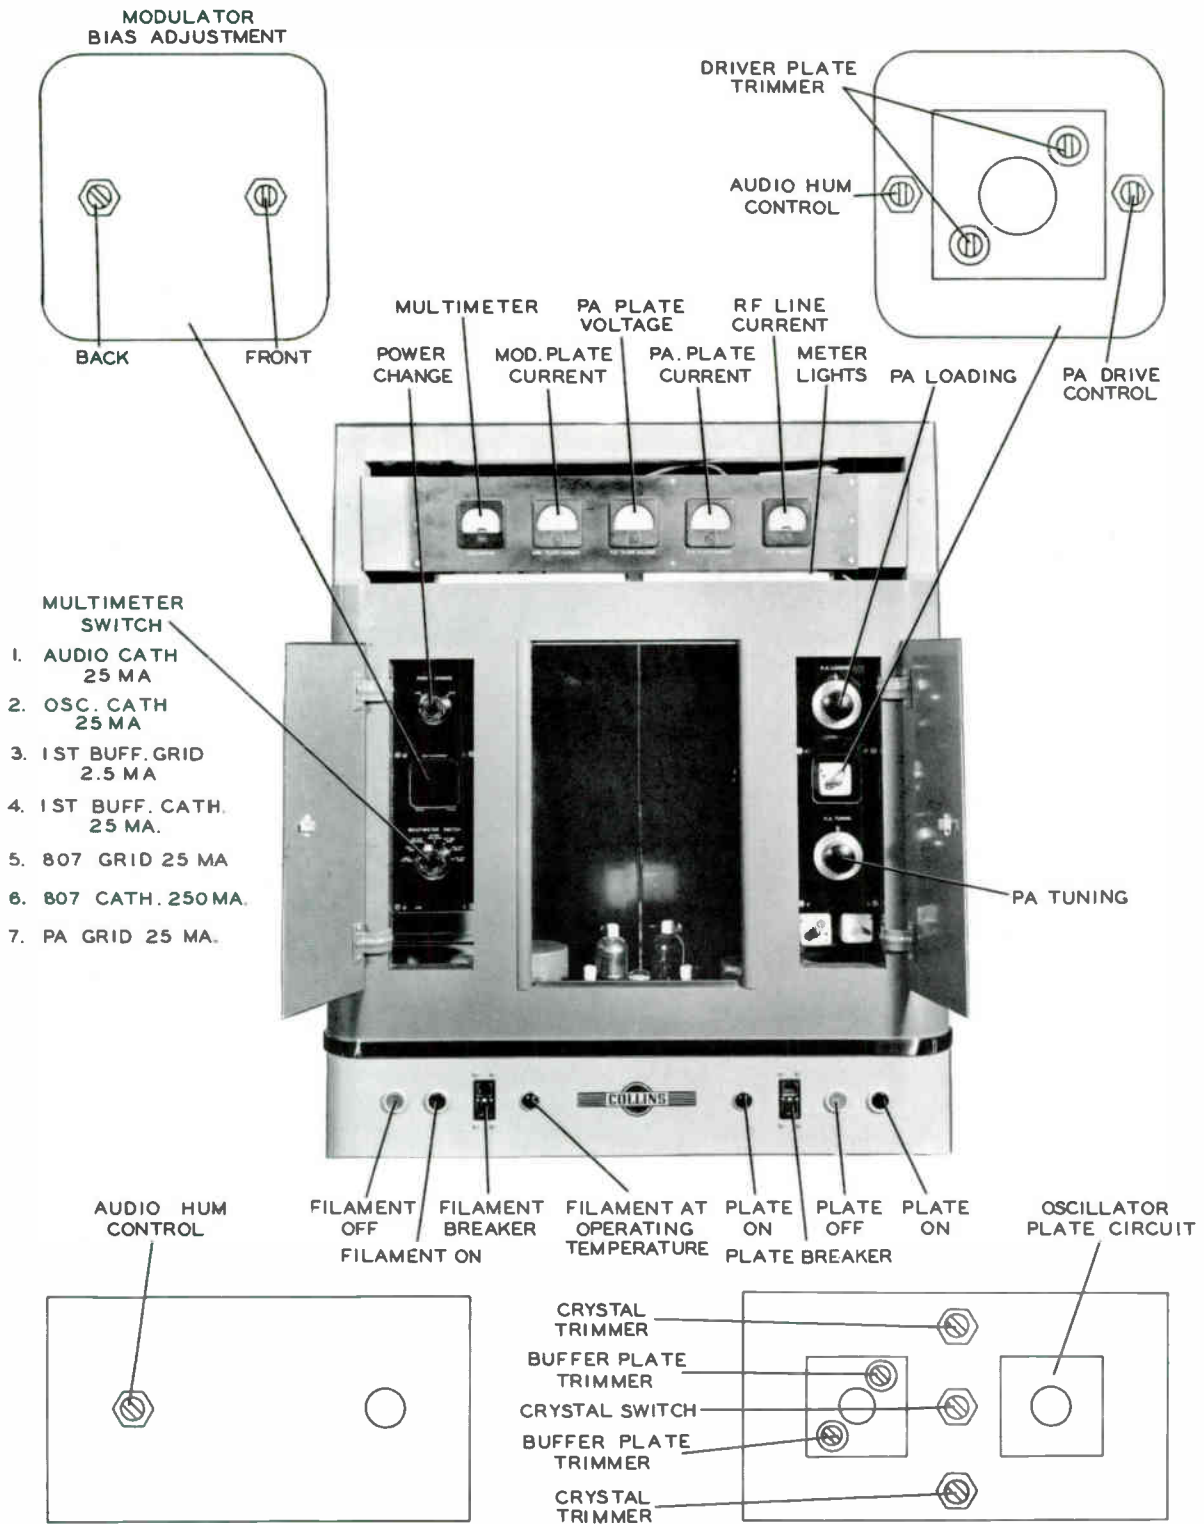

Figure 3-1. Location of Controls and Instruments
3.1. FILAMENT CONTROL (See figure 3-1.)
Crystal selector switch S-101 is located in the center of the area behind the lower right inspection plate as indicated in figure 3-1. The switch shaft is slotted for screwdriver operation. When the switch is turned to the right, the crystal toward the right side of the chassis (as viewed from the front of the transmitter) is selected.
Crystal frequency trimmer controls C-101 and C-102 are located behind the lower right inspection plate as indicated in figure 3-1. These two controls provide for small adjustments in the crystal frequency. C-101, the upper control, adjusts the frequency of Y-101, the left-hand crystal as seen from the front of the transmitter.
Multimeter switch S-102 is a two-pole, seven-position switch located behind the left door on the front of the transmitter cabinet as shown in figure 3-1. This switch inserts multimeter M-104 into any one of seven transmitter circuits. Table 4-1 lists the multimeter switch positions and typical readings for these circuits. The full scale reading of the multimeter is indicated for each switch position.
The first buffer tank circuit trimmers, C-114 and C-115, are screwdriver adjustments located behind the lower right inspection plate. The location of these two trimmers is shown in figure 3-1. They should be adjusted for maximum grid drive to the 807 rf driver stage. The trimmers are connected in parallel as shown in figure 7-4. One of the trimmers should be adjusted to give a good tuning range with the second trimmer, and all adjustments made with the second trimmer.
C-125 and C-126, the rf driver tank circuit trimmers, are screwdriver adjustments located behind the upper right inspection plate. The location of these two trimmers is shown in figure 3-1. They should be adjusted for maximum grid drive to the power amplifier. The trimmers are connected in parallel as shown in figure 7-4. One of the trimmers should be adjusted to give a good tuning range with the second trimmer and all adjustments made with the second trimmer.
The power amplifier plate circuit tuning and loading controls, C-146 and C-147, are located behind the right-hand door on the front of the transmitter cabinet as shown in figure 3-1. The PA tuning control is used to resonate the power amplifier plate circuit. An increase in loading is obtained by reducing the capacity of the power amplifier loading capacitor, C-147, while simultaneously retuning the power amplifier plate circuit to resonance by means of the PA tuning control. With a pi-L output network of the type used in the 550A-1 transmitter, any adjustment of the PA loading control will detune the output network and cause the plate current to soar. Care must be exercised to keep the PA tuning at resonance whenever the PA loading control is adjusted. The loading should be increased until the rf line current is slightly less than the desired value. The PA tuning control should then be adjusted slightly to the side of resonance that gives an increase in rf line current. The power amplifier plate current will also increase; however, the increase in power to the rf line constitutes a large proportion of the increase in power to the power amplifier circuit, thus yielding a higher plate efficiency. Adjust the PA tuning and PA loading controls to the point where the desired amount of rf line current is obtained with the highest operating efficiency. The highest efficiency will always be obtained with the power amplifier plate circuit tuned slightly on the capacitive side of resonance.
Power change switch S-103 is located behind the left door on the front of the cabinet as shown in figure 3-1. A resistor is connected in series with the high voltage to the power amplifier plate circuit. The power change switch, S-103, is connected to short this resistor for high power operation and remove the short for low power operation. This switch may be operated regardless of whether the transmitter is on the air or not. Minor corrections in power output are made by the power amplifier tuning and loading controls.
PA drive control R-182 is a screwdriver adjustment located behind the upper right-hand inspection plate as shown in figure 3-1. It is used to vary the rf driver screen voltage in order to regulate the grid drive applied to the power amplifier. PA drive control R-182 should be adjusted at the same time and in the same manner as audio hum control R-120, described in paragraph 3.13 below. When adjusted in this manner, optimum voltage will be applied to the rf driver screen circuit.
Audio hum control R-120 is a screwdriver adjustment located behind the upper right inspection plate as shown in figure 3-1. It is a variable resistor used to shift the ground point of the power amplifier filament circuit to a point which will minimize the hum caused by the ac filament voltage. The other audio hum control, R-146, is the only control located behind the lower left inspection plate. The position of this screwdriver adjustment is indicated in figure 3-1. The operation of this control is the same as that of audio hum control R-120; it shifts the ground point of the modulator filament circuit to minimize hum.
Modulator bias adjustments R-162 and R-163 are located behind the upper left inspection plate as indicated in figure 3-1. These two screwdriver adjustments control the amount of negative bias applied to the grids of the individual modulator tubes. Turning R-162 counterclockwise increases the amount of bias applied to V-108, the modulator tube near the front of the cabinet. To adjust these two controls, inject a 1000-cycle signal of sufficient amplitude to modulate the carrier 95%. Vary R-162 and R-163 until minimum distortion is indicated on a distortion analyzer. R-149 can be used to adjust the total modulator plate current. If one tube shows excessive dissipation when the point of minimum distortion is found, try a different combination of modulator tubes.
- k. Select the desired crystal, using crystal selector switch S-101. (See figure 3-1.)
- o. Set the multimeter switch to the position designated 807 grid, 25 ma., and adjust the buffer plate tank trimmers for maximum 807 grid current. These two trimmers, C-114 and C-115, are located behind the lower right inspection plate, as shown in figure 3-1. The two trimmers are connected in parallel; one of the trimmers should be set to provide a good tuning range with the second.
level. Adjust PA Drive Control R-182 and audio hum controls R-120 and R-146 to reduce the noise to a minimum value. The location of these controls is shown in figure 3-1.